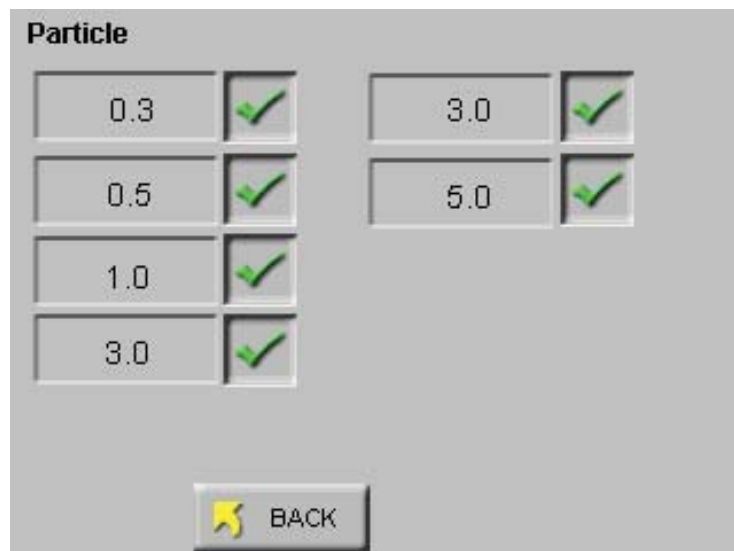

Figure 6-87 Reports Particle Screen
- Select the PARTICLE button to enable or disable particle channels as shown in Figure 6-87.